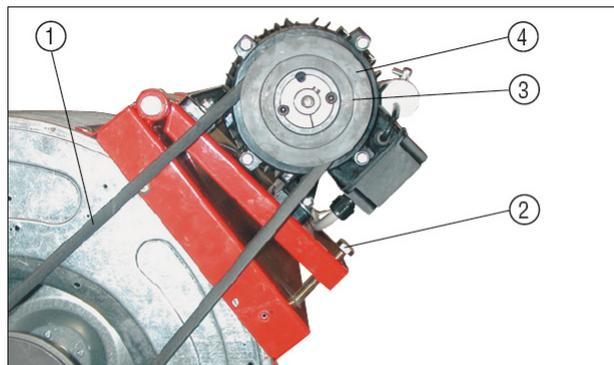

Fig. 2
- The volume of air flow corresponds to the recommended level. If the heater is equipped with centrifugal fan and if the volume of hot air differs from preset values proceed as follows (Fig.2):
- 2) Remove the screws (2) from the motor slide.
- 3) Remove the belt (1).
- 4) Loosen the bolts (3).
- 6) Tighten the bolts (3).
- 8) Repeat operations from (1) to (7) until the correct volume of air flow has been achieved.